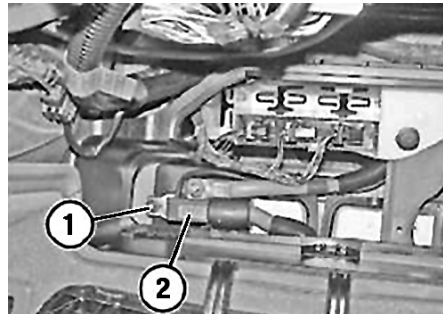

Fig. 7 Battery positive cable disconnection
12. Loosen battery positive cable terminal nut (1), **Fig. 7.**
13. Disconnect battery positive cable terminal (2) from battery and position aside, **Fig. 7.** Do not disconnect terminal by force.
4. Connect battery positive cable terminal (2) to battery, **Fig. 7.** **Torque** terminal nut to 44 inch lbs.